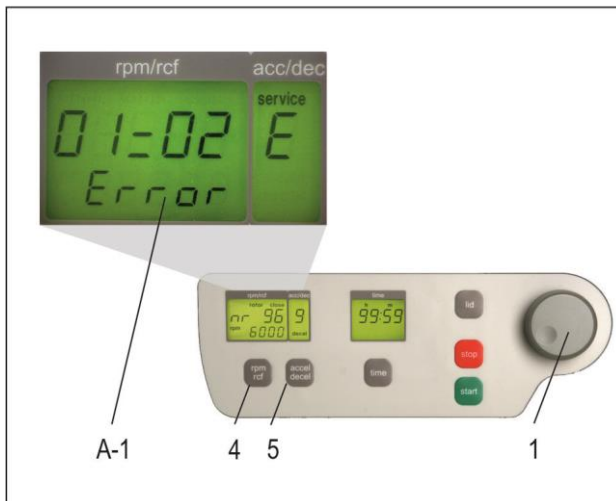

Figure 6
The list of the last 99 error messages can be looked over by pressing the key „rpm/rcf“ (4) and leaf through it by the potentiometer(1). The respective error codes appear in the display „rpm/rcf“ (A-1) (see Figure 6). The first two numbers indicate the appeared errors ongoing from 00 to 99, the last two numbers indicate the error code. Please look up in "table 5: error messages" (See APPENDIX VI).